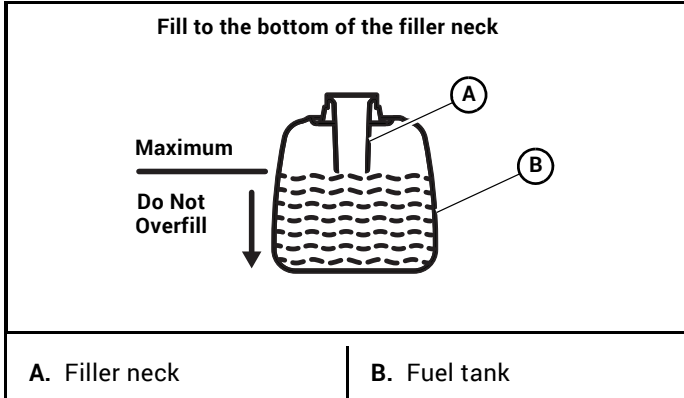

Figure 4-3
**IMPORTANT:** Do not overfill the fuel tanks. The fuel tanks should be filled **no higher than the bottom of the fill neck.** (Figure 4-3) The fuel system is designed to leave room for the fuel to expand with fuel temperature changes.